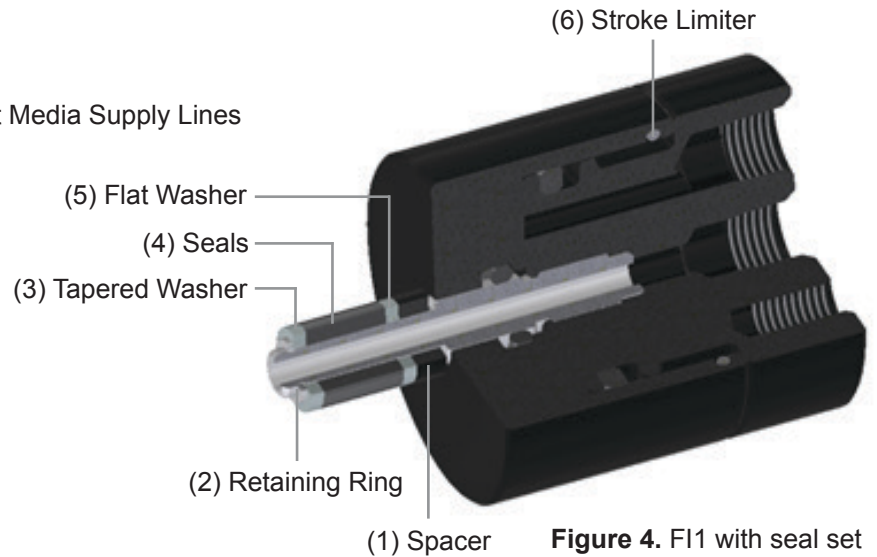

Figure 4. FI1 with seal set
1. For new seal installation/replacement, remove retaining ring (2) from shaft tip and slide off old seal (4) and washers (3 & 5). Spacer (1) is to remain on connector shaft.
3. Assemble seal set onto shaft per Figure 4.